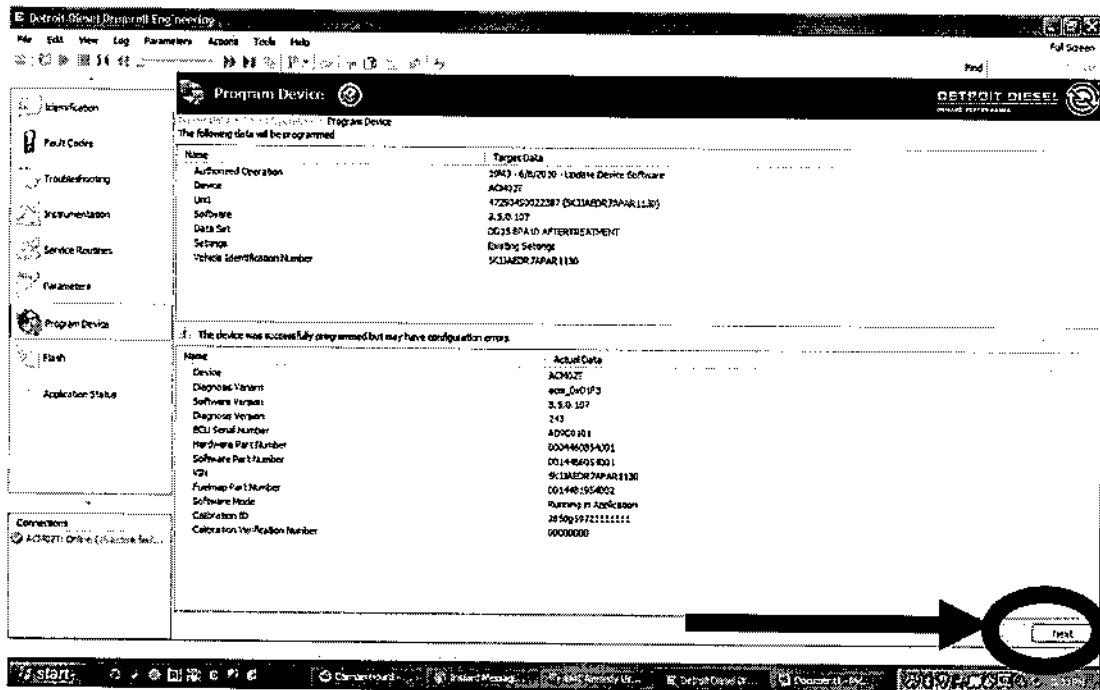

Figure 4 – Completion Of Programming
10. After the ACM successfully programs, you will see a screen similar to Figure 4. Click the “Next” button in the bottom right corner.
13. After the CPC successfully programs, you will see a screen similar to Figure 4. Click the “Next” button in the bottom right corner.
16. After the MCM successfully programs, you will see a screen similar to Figure 4. Click the “Finish” button in the bottom right corner.